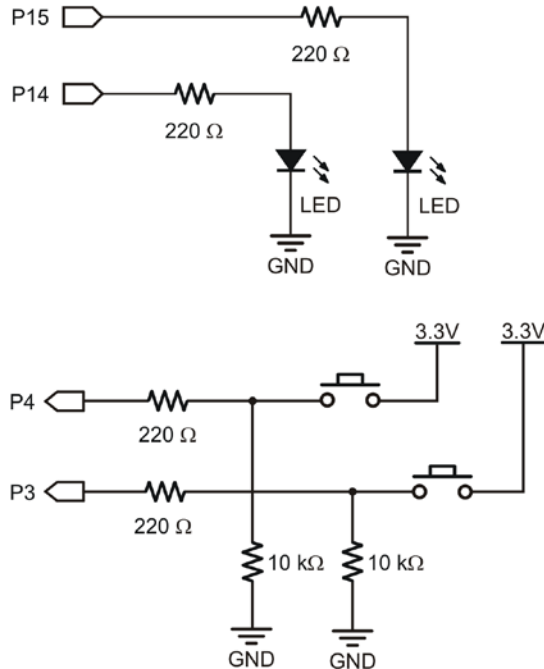
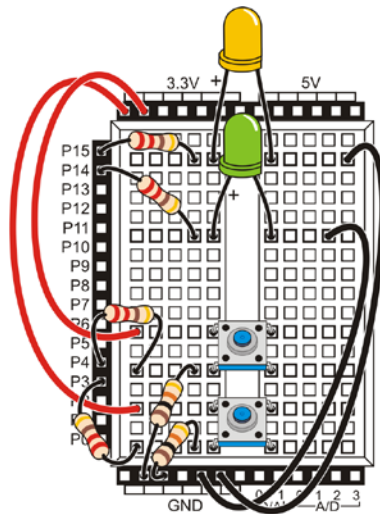

Figure 3-13
Figure 3-14
- Build the circuits shown in Figure 3-13 and Figure 3-14. If you need help building the circuit shown in the schematic, use the wiring diagram in Figure 3-14 as a guide.
There are three places where lines intersect in Figure 3-13, but only two of those intersections have dots. When two lines intersect with a dot, it means they are electrically connected. When building a circuit on the breadboard, leads connected by a dot are usually in the same 5-socket row.
For example, the 10 k Ω resistor on the lower-right side of Figure 3-14 has one of its terminals connected to one of the P3 circuit's pushbutton terminals and to one of its 220 Ω resistor terminals. When one line crosses another, but there is no dot, it means the two wires DO NOT electrically connect. The line that connects the P4 pushbutton to the 10 k Ω resistor does not connect to the P3 pushbutton circuit because there is no dot at that intersection.